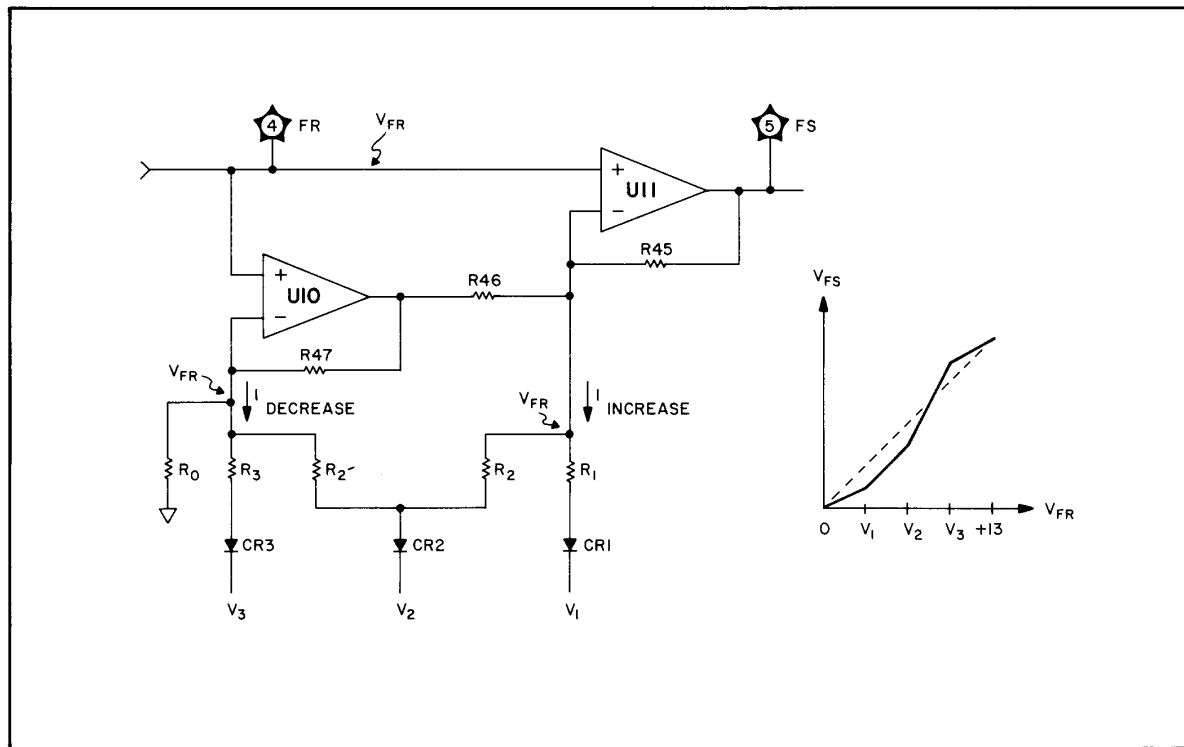

Figure 8-33. Simplified Schematic Showing Resistor-Diode Action
**Resistor-diode Network.** Figure 8-33 is a simplified schematic illustrating the action of the resistor-diode shaping network. When  $V_{FR}$  is less than  $V_1$ , no diodes are conducting; the current through  $R_0$  causes the Shaper gain ( $\Delta FS / \Delta FR$ ) to decrease to a value of less than one.